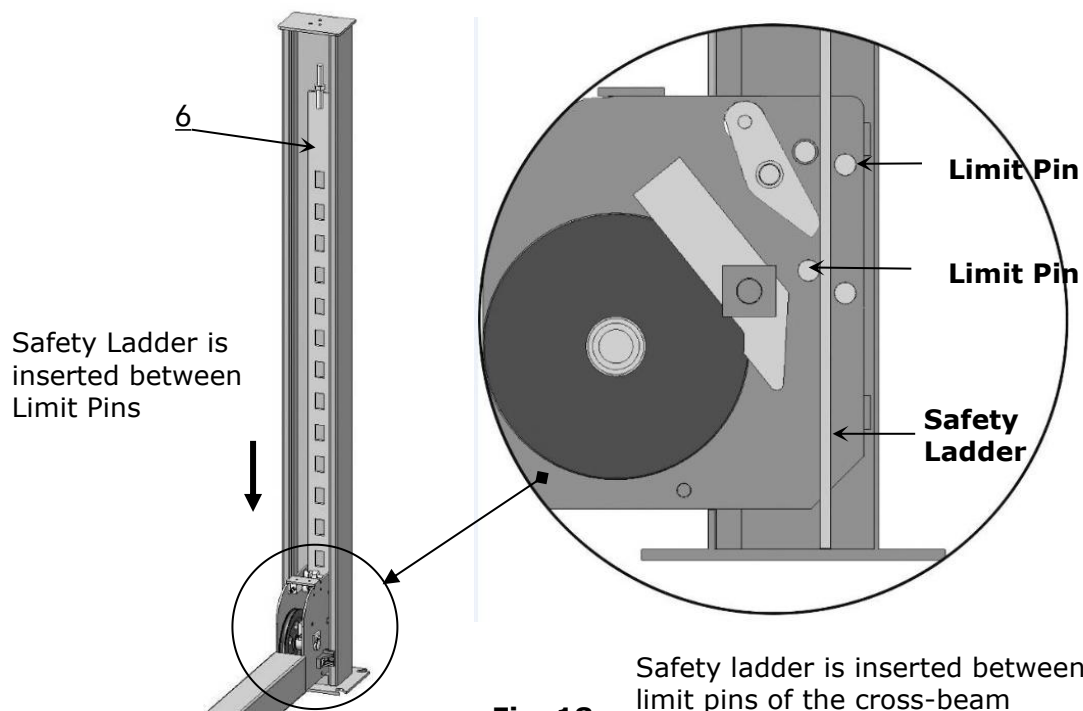

Fig. 18
1. Take off the pulley safety cover and unscrew the four upper nuts of the Safety ladders, and then adjust the four lower nuts to be at the same position, then install the safety ladders (**See Fig. 18**).